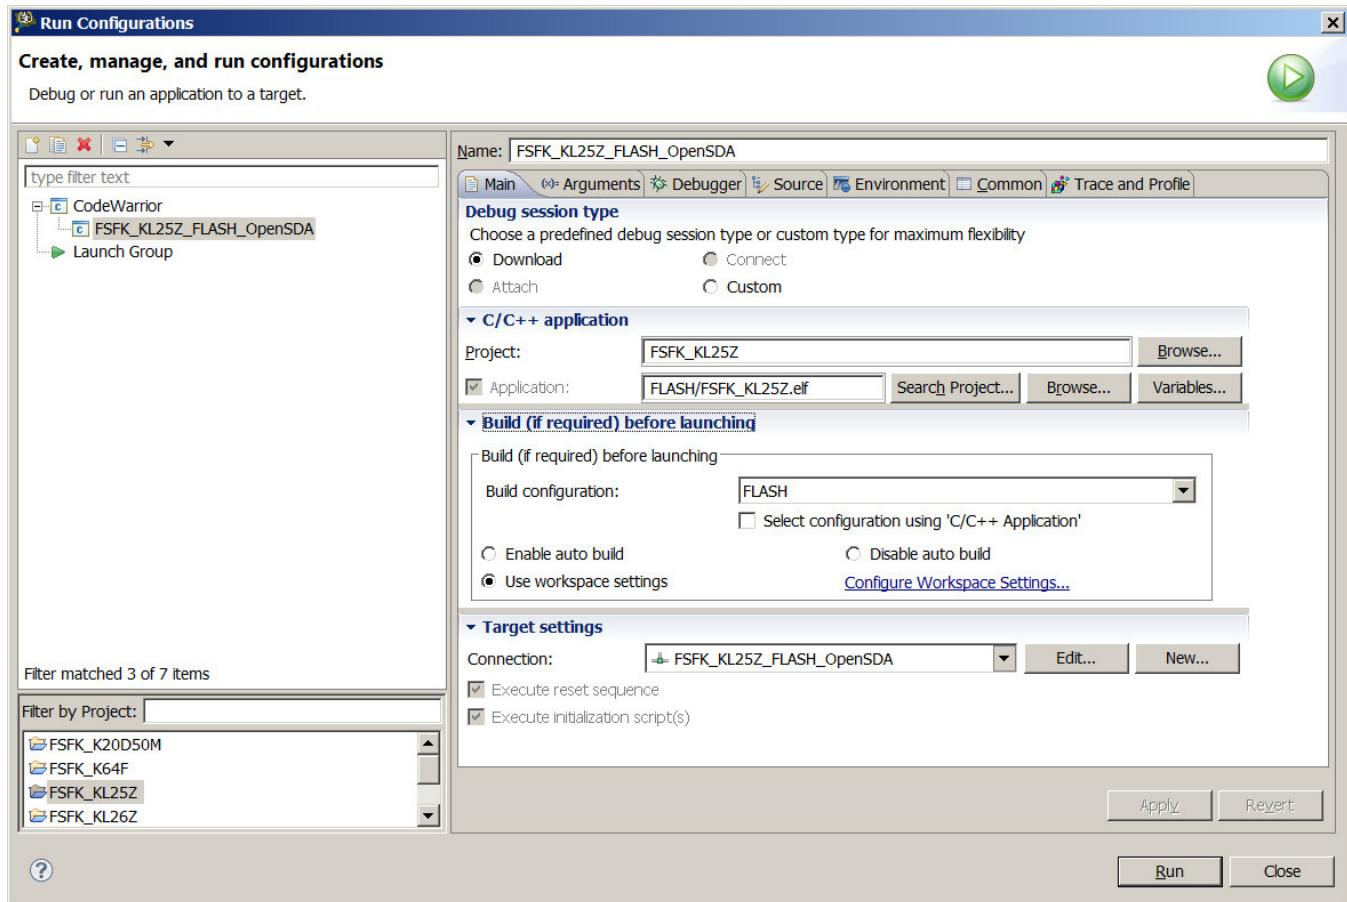

Figure 11. Run Configurations window
8. Select **Run->Run Configurations** to bring up the Run Configurations dialog, shown in Figure 11.